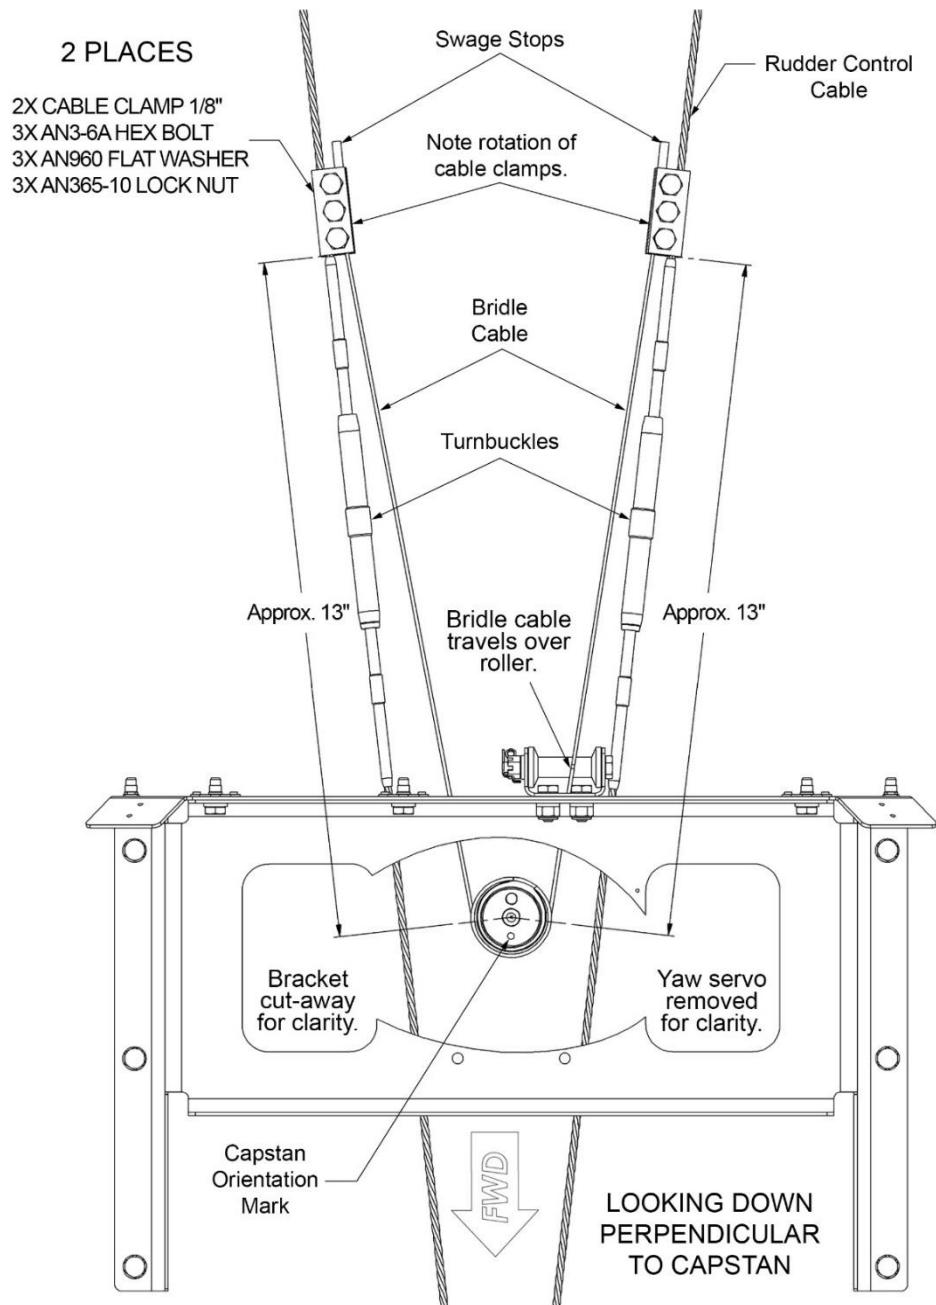

Figure 16: Connecting Yaw Servo Bridle Cable to Rudder Control Cable
27. Connect bridle cable to rudder control cables with cable clamps (see Figure 16). Position bridle cable so it travels over (not under) the roller, as shown in Figure 16. *Do not fully tighten fasteners.*
28. Position bridle cable clamps as shown in Figure 16 and ensure they do not contact any structures.
33. Re-connect bridle cable to rudder control cables with cable clamps (see Figure 16). *Do not fully tighten fasteners.*
- Position of bridle cable clamps closely matches Figure 16.
- Capstan orientation mark is positioned, as shown in Figure 16.